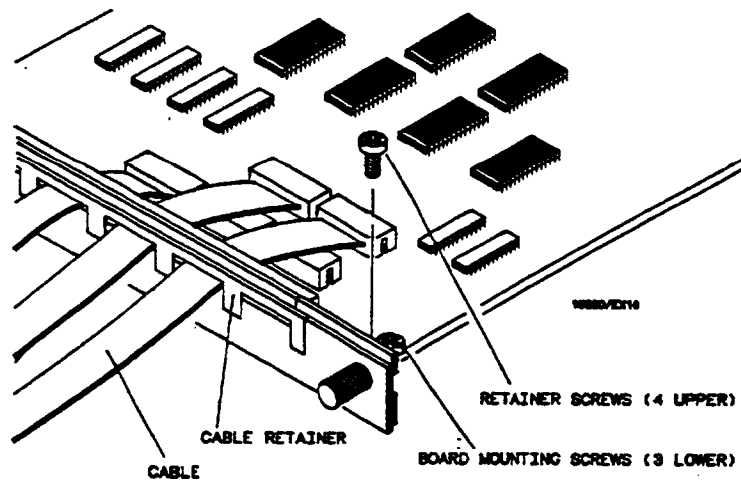

Figure 6-18. Retainer And Screws
- f. Using a No. 10 torx \oplus driver, remove four screws that hold cable retainer onto card. See figure 6-18.